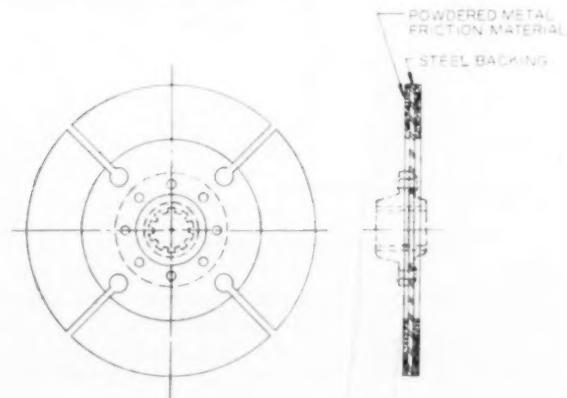

FIG. 10 DISKS—HUB TYPE
**Disk—Hub Type.** This type friction element, Fig. 10, usually has a steel core protruding on the ID to a small diameter, onto which is riveted a hub carrying a spline. It is used mostly on plate-type applications, such as automotive and industrial clutches, and has the same general dimensions as the spline-type disk. In most cases the diameters and rivet holes in the steel core are machined or blanked prior to sintering. However, in cases of close tolerances, they can be machined or blanked after sintering for a more accurate fit to the hub.